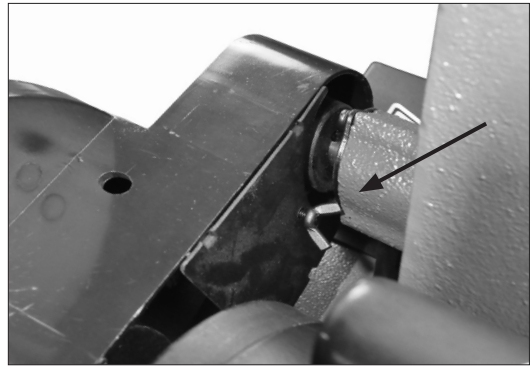

FIG. 6
13. Position the metal plate inside of the belt guard. The bent tabs will keep it in place, then secure it with the long M4 Phillips head Screw (#36) and hex Nut (#40). FIG. 6.